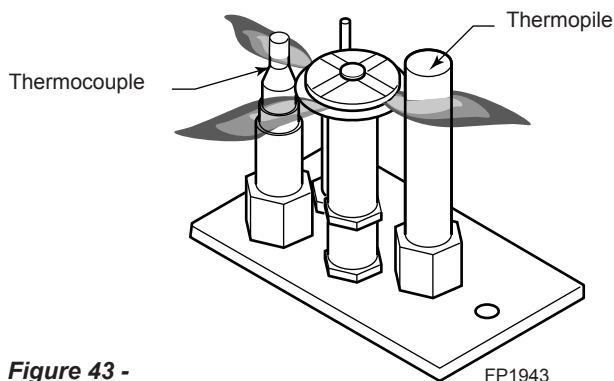

Figure 43 -
1. Check pilot flame. Flame should touch approximately 3/8" of the top of thermopile and touch top of thermocouple. *Figure 43*. If not, contact dealer for service.